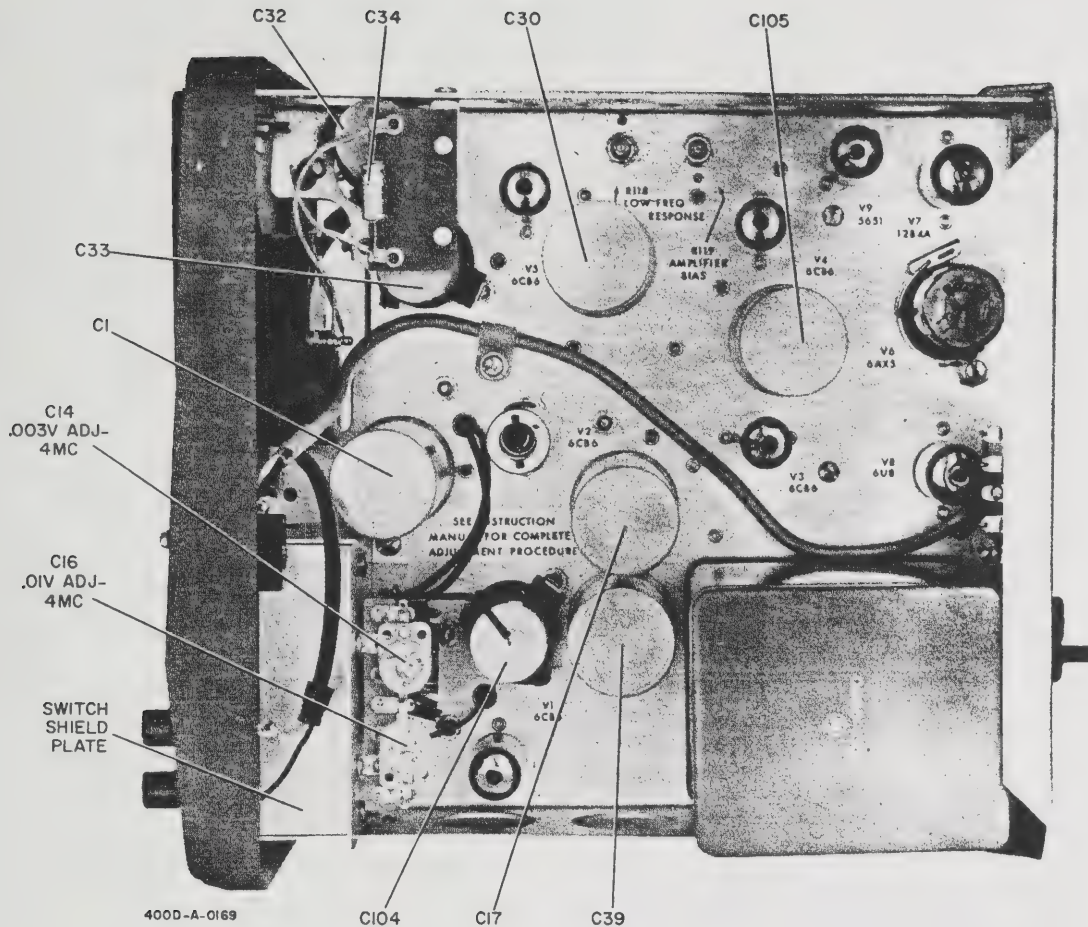

Figure 5-4. Right Side View of Voltmeter Chassis
n. Readjust oscillator and frequency response test set for 20 cps output and a SET LEVEL indication on the test set meter. If necessary adjust R118 (figure 5-4) to obtain a reading at exactly 0.9 on the voltmeter under test.
p. Repeat the 400-cps to 4-mc frequency response check (steps g through k) on the .003 volt range of the voltmeter and if necessary adjust C14 (figure 5-4) to obtain a reading of 0.9 on the voltmeter at 4 mc.
q. Repeat the 400-cps to 4-mc frequency response check (steps g through k) on the 0.01 volt range of the voltmeter and if necessary adjust C16 (figure 5-4) to obtain a reading of 0.9 on the voltmeter at 4 mc.